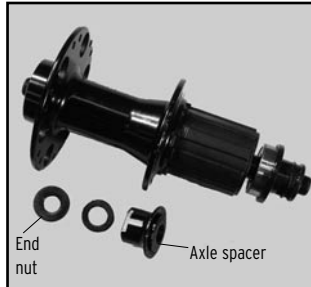

Fig. 3F
2. Remove the end nut, washer, and axle spacer (Fig. 3F) from the axle.